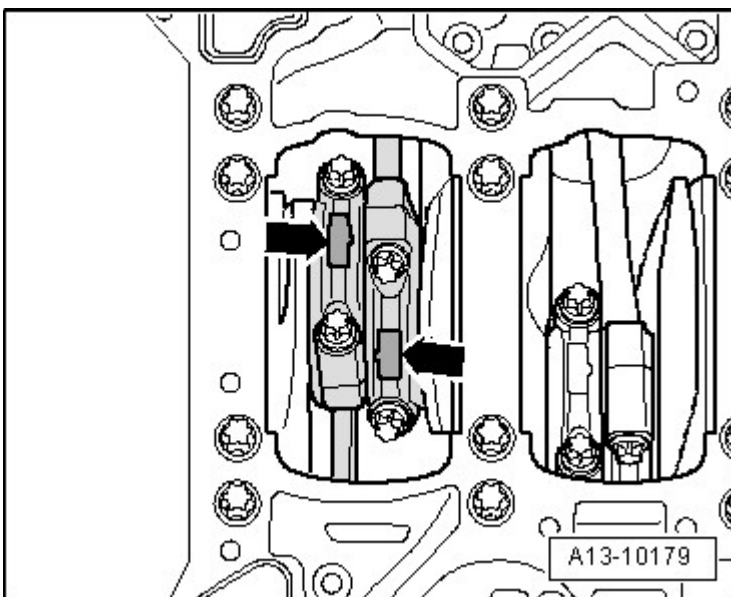

Fig. 21: Connecting Rod, Installed Location
- Installation position of connecting rod pairs, refer to **Fig. 21**